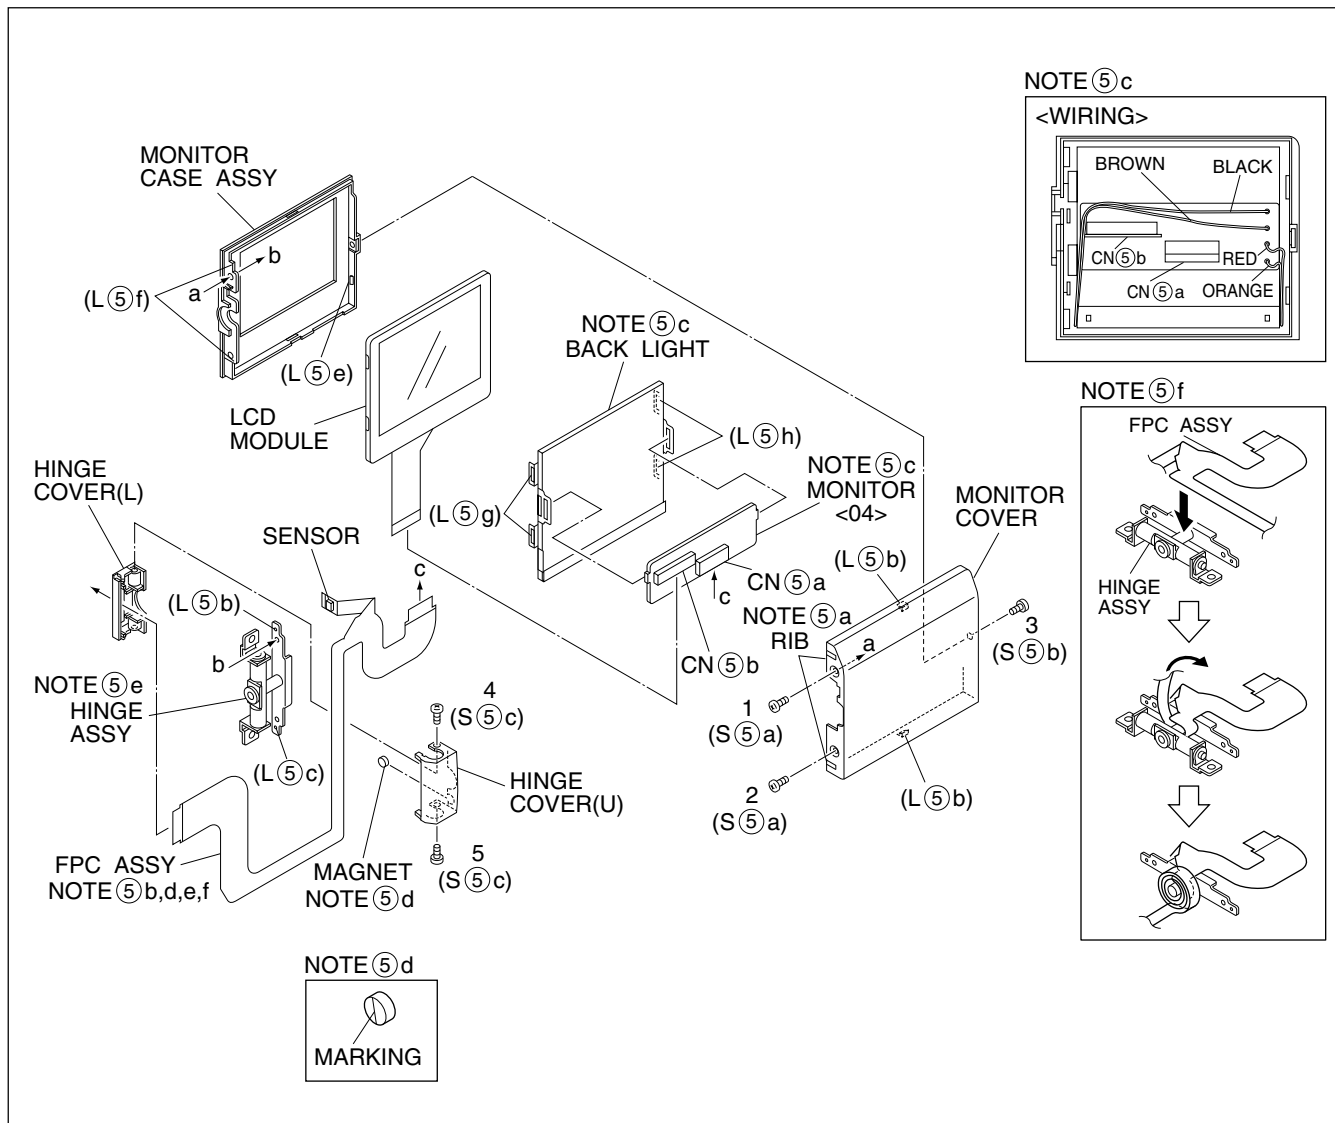

Fig. 1-4-1
NOTE ⑤: Refer to Fig. 1-4-1 for the disassembly method.